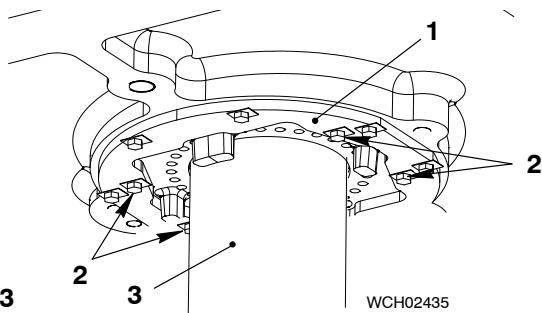

Fig. 3
- 12) Remove the four inner bolts (2, Fig.3) from the support (1).